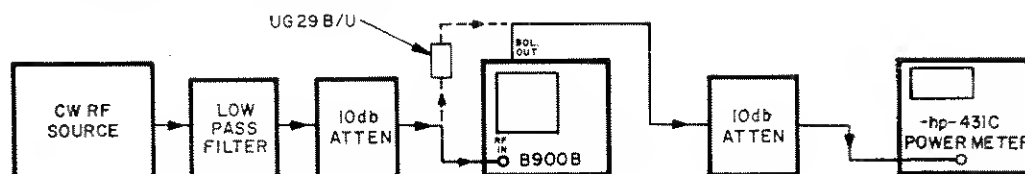

Figure 5-6. Path Attenuation Check Setup
- a. Connect equipment as shown in Figure 5-6